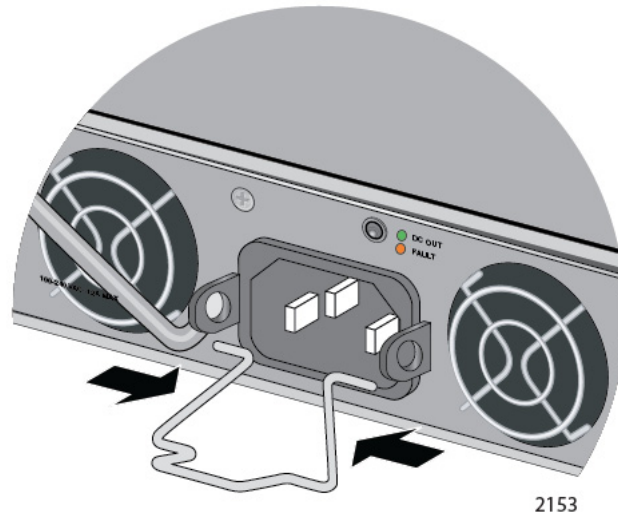

Figure 22. Installing the Power Cord Retaining Clip
- If you installed the PWR150, PWR150R, PWR250, PWR250-80, or PWR800 Power Supply, install the power cord retaining clip on the AC plug. Press the sides of the clip inward and insert the two ends into the holes on the AC socket. Refer to Figure 22 on page 67.